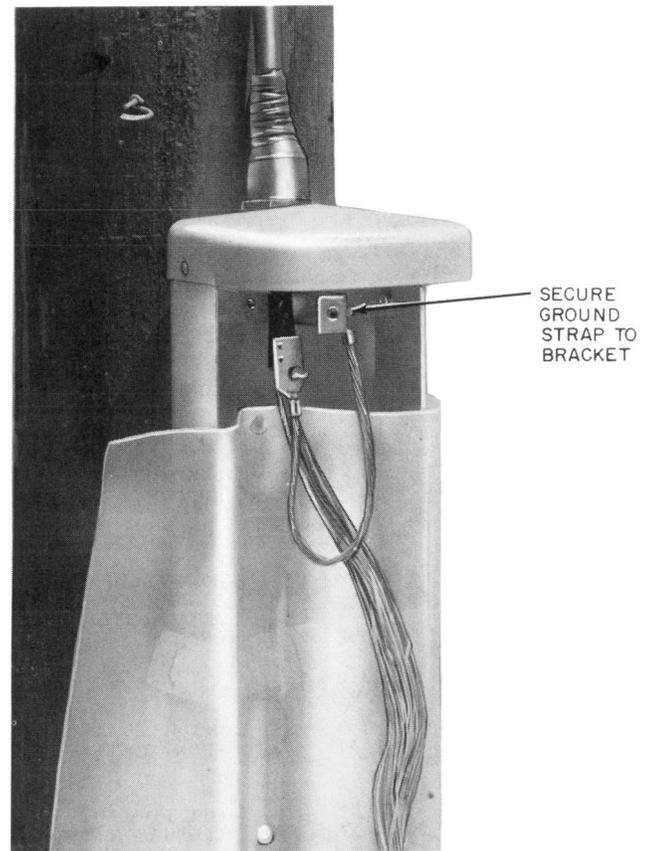

Fig. 13—Sheath Preparation for Aerial Entrance Cable
5.03 Cable sheath preparation for cable entering top of closure from aerial plant is illustrated in Fig. 13.